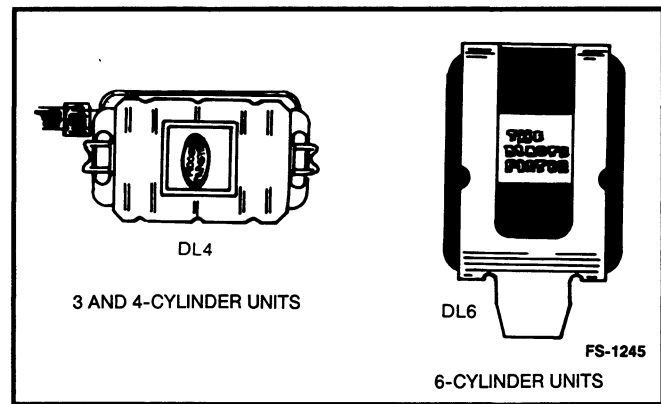

FIGURE 8-4. FUEL FILTERS
3. Remove filter retaining clip or clips from fuel filter (see Figure 8-4).